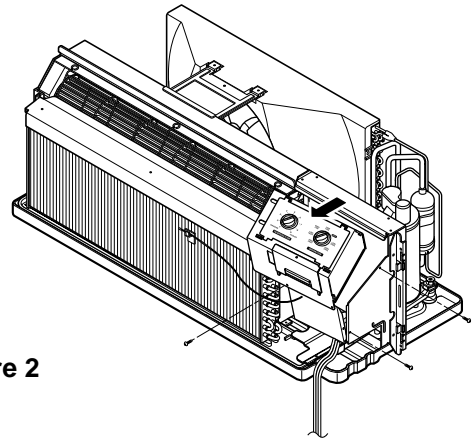

Figure 2
2. Remove the three screw which fasten the control box. (See Fig. 2)
3. Pull the control box from the barrier. (See Fig.2)
7. Re-install the components by referring to the removal procedure. (See Fig. 2)